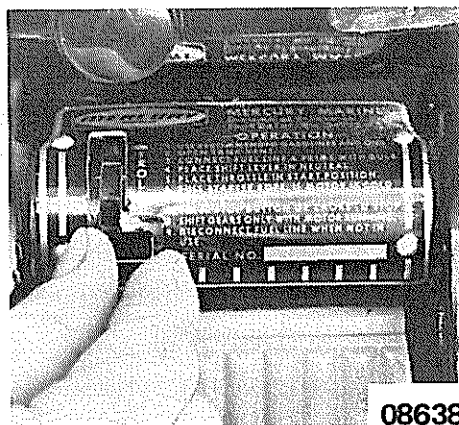

Figure 13. "Troll" Lever
2. Push lever in direction of "Troll". (Figure 13)